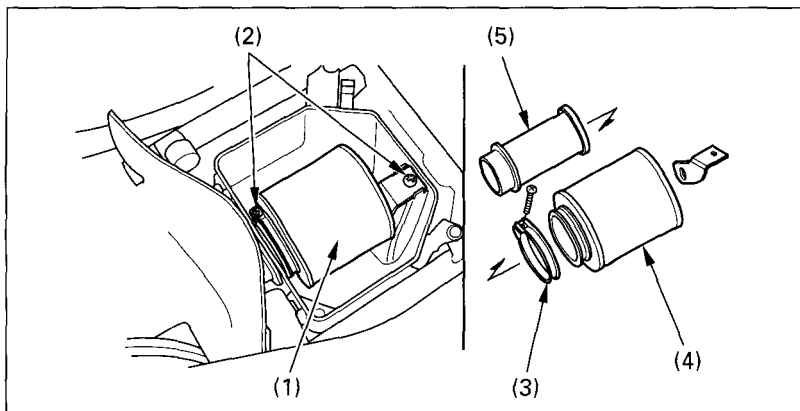

Fig. 4-5      (1) Air cleaner assembly      (4) Air cleaner
4. Remove the screws (2) (Fig. 4-5) and remove the air cleaner assembly (1) from the air cleaner housing.
5. Unscrew the clamp (3).
6. Remove the air cleaner (4) from the air cleaner body (5).